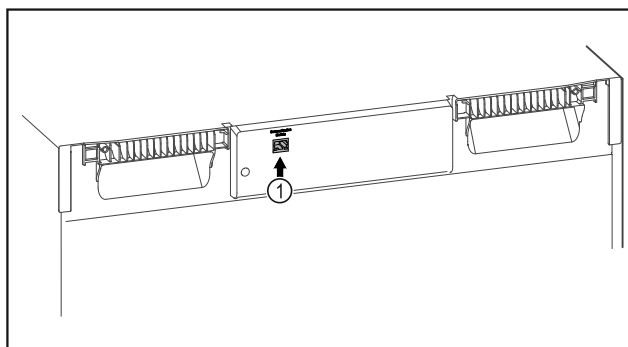

Fig. 136
- ☐ SmartModule Fig. 136 (1) is in use.